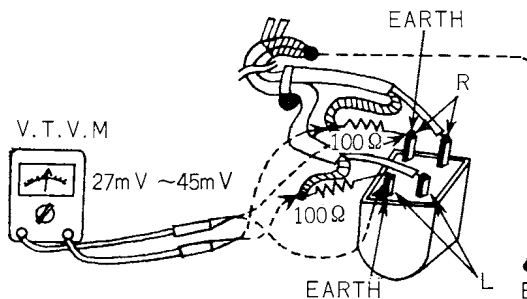

Fig. 13
- c) Measure the voltage after connecting V.T.V.M. (vacuum tube voltmeter) as shown in Fig. 13, and